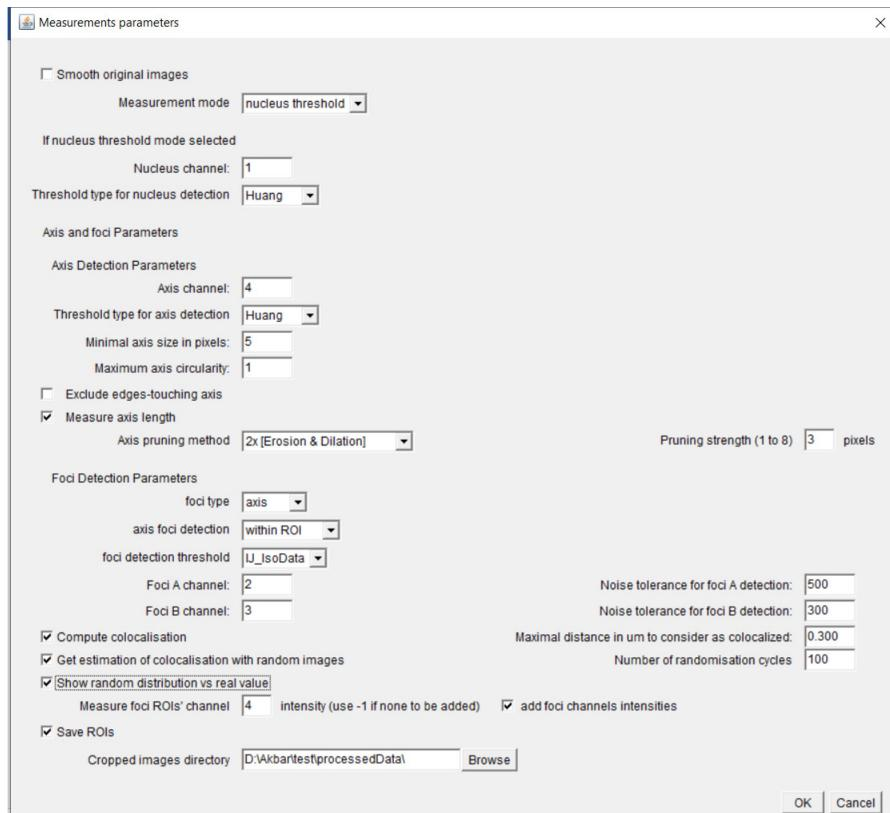

Fig. 7.1. The “count axis/off-axis foci in two channels and colocalize” menu
STEP2. Select the original region of interest to be used for the measurements. As in the previous routines, the user may either select the user-defined ROI (ie. the .roi that was generated upon image cropping), or use a thresholded nucleus staining (figure 7.1). This user-defined or nucleus ROIs are referred as “reference ROI” below.
- Set the foci type. Only foci of interest (as indicated in the foci type field figure 7.1, ie. either axis or off-axis) will be kept (and those of the other type will be discarded from analysis/roiManager). Foci maxima are detected and stored in the RoiManager (e.g axis_fociA (maxima)). The different ROIs generated are associated with various ROIGroups (figure 7.2 and 7.3) for the purpose of further, downstream, analysis by the user.